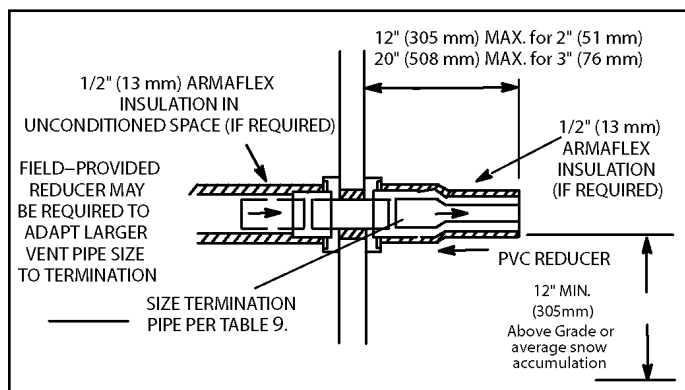

Figure 40. Non-Direct Vent Field Supplied Wall Termination
2. On field supplied terminations for side wall exit, exhaust piping may extend a maximum of 12 inches (305 mm) for 2" PVC and 20" (508 mm) for 3" PVC beyond the outside wall. See Figure 40.